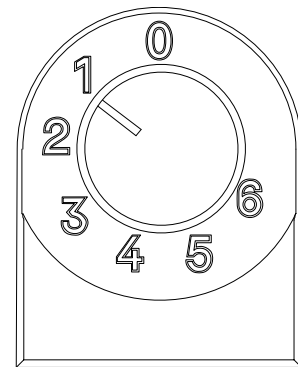
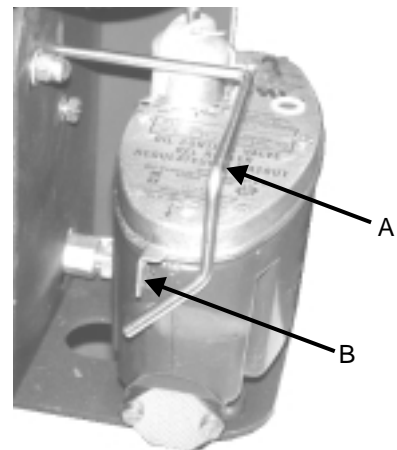

Figure 16
Figure 17
The stove carburetor contains a filter to trap impurities. This filter must be cleaned periodically with the frequency depending on the fuel purity. A safety lever controls fuel flow. Oil can only enter the float chamber when the safety lever is depressed. Oil temperature variations will affect the oil flow into the float chamber. A float in the chamber raises the fuel level available to the burner. The carburetor is also controlled by a control knob which turns from "0" (off) to "6" (high setting) (fig. 16).
When the door is opened, an automatic oil valve shut-off rod lifts the safety lever (B, figure 17) and the stove shuts down (A, figure 17)
4. Closed the door and set the control knob to "0" (figure 16). Depress safety lever to allow oil flow into the carburetor (B, figure 17).